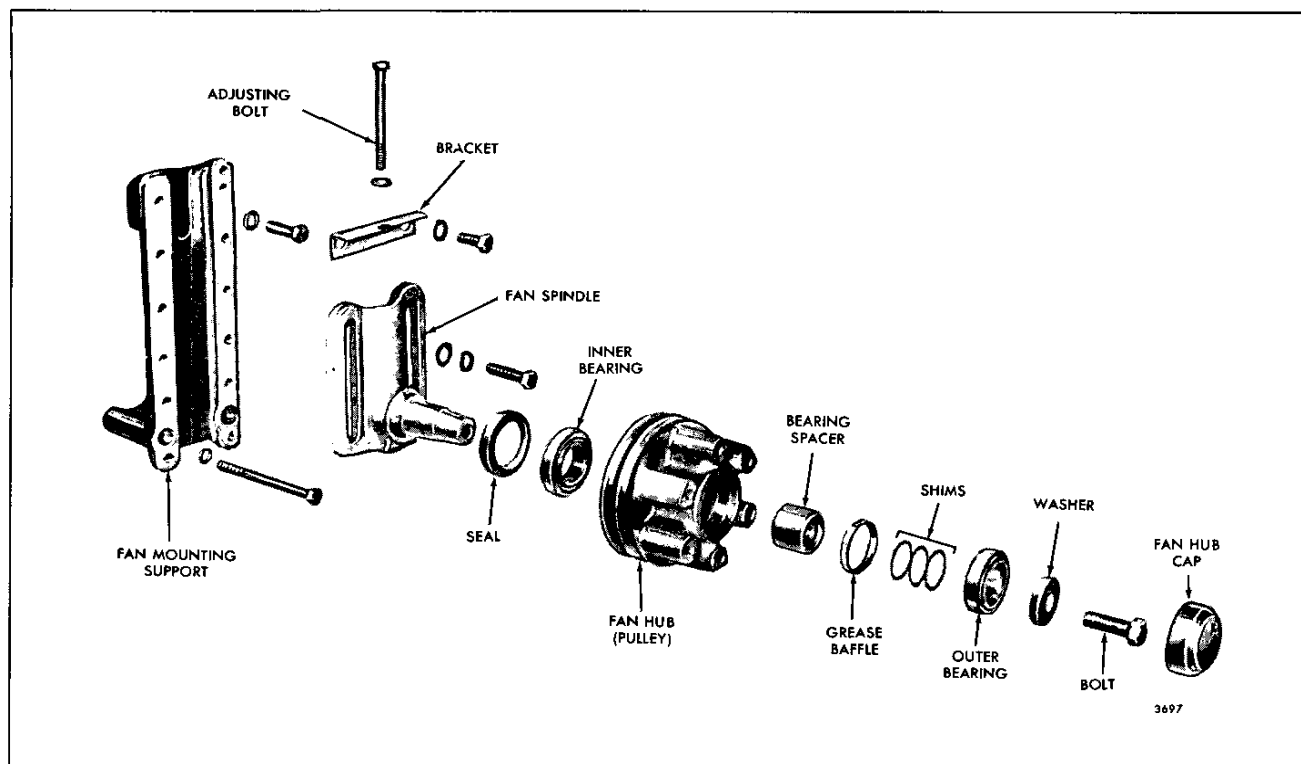

Fig. 12 – Typical Fan Hub and Spindle Details and Relative Location of Parts (6V and 8V Engine)
2. Install the drive belts and adjust the belt tension as outlined in Section 15.1. If used, install the adjusting bracket, bolt and plain washer shown in Fig. 12.